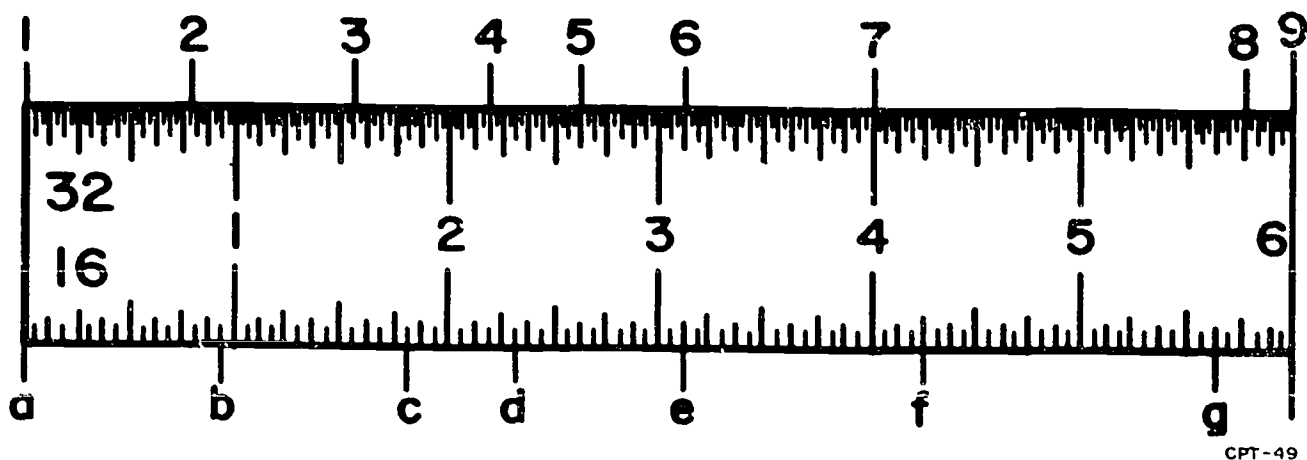

Figure 1-22. 6-inch rule.
To further improve your skill in reading graduated scales, refer to the 6-inch rule illustrated in figure 1-22 and verify each of the following:
3. Identify the graduations on the rule in figure 1-22.